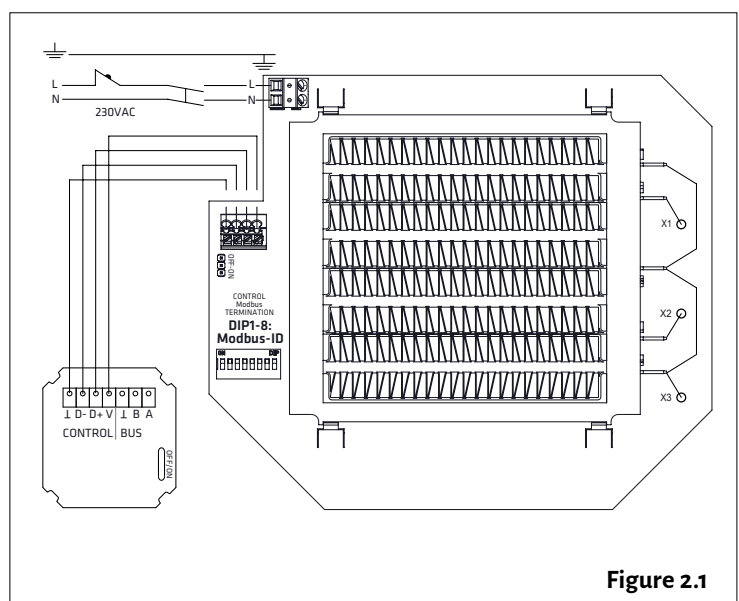

Figure 2.1
2. Detach the touch screen (4) from the locking piece (3).
3. Detach the locking piece from the bottom (1), for example with a small screwdriver.
4. Fasten the bottom (1) to the junction box.
5. Install the cover plate (2).
6. Install the locking piece (3).
7. Connect the wires to the touch screen connectors, as shown in Figure 2.1.
8. Push the touch screen (4) into the locking piece (3) until you hear a click.